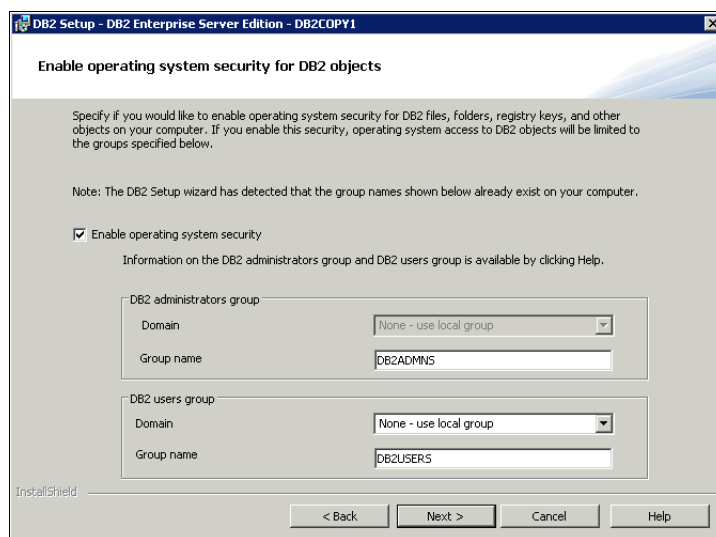

Figure 12-15 Enable operating system security for DB2 objects
14. Accept the defaults for the DB2 administrators group and DB2 users group in the Enable operating system security for DB2 objects window (Figure 12-15) and click **Next** to proceed.